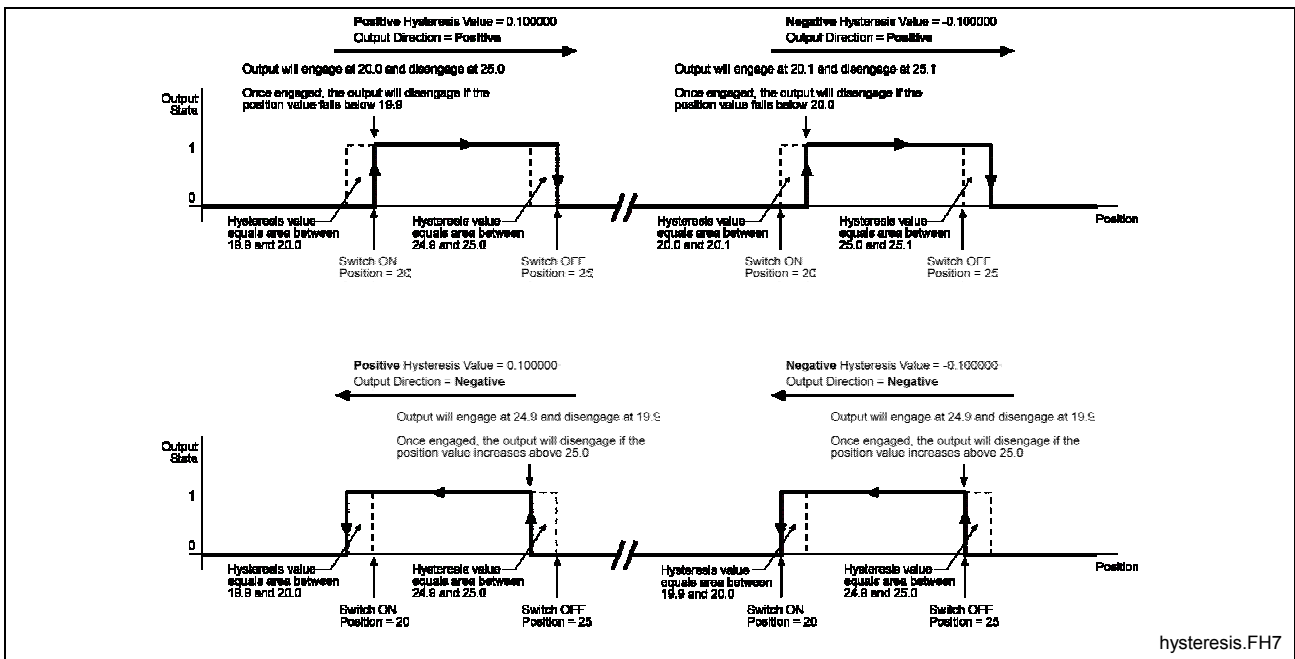

Fig. 5-55: Positive and Negative Hysteresis Value Reaction
- **Hysteresis (C-0-2936)** - This value can be either *positive or negative* and sets the tolerance distance used by the control to determine whether or not a switch is in position. This is used to prevent dithering of the output. The value entered for the hysteresis will affect all switches in the *Output Switches* section. A PLS Master that is either a Real Master or a Drive uses a feedback device to output a positional value. Due to small positional value corrections from the drive trying to hold or maintain a position, the feedback output data will experience small positional changes. The illustration in Fig. 5-55 shows the different reactions for positive and negative hysteresis values.